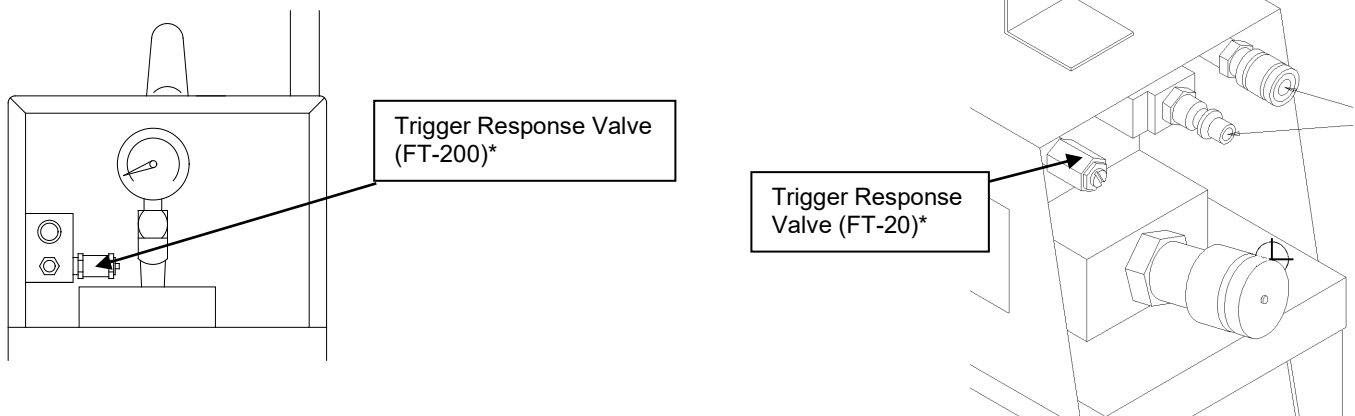

Figure 5.3-1
- (a) Trigger response valve requires adjustment (see Figure 5.3-1.).